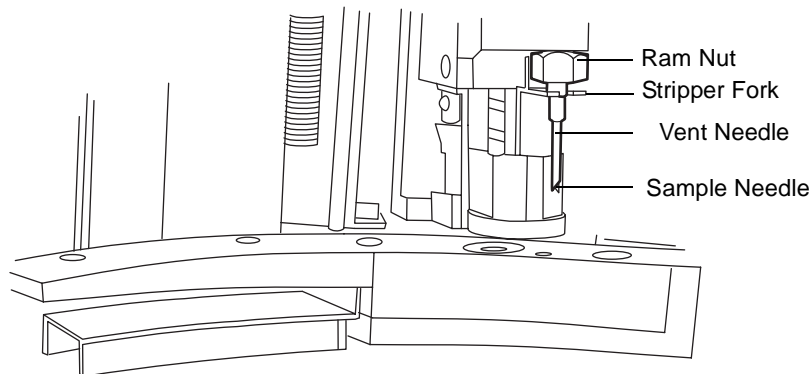

Figure 4-12 Viewing the Sample Needle
- e. Find the ram nut and sample needle inside the sample compartment, to the left of the tray (Figure 4-12). Use the flashlight to monitor the needle movement.
- h. Use the 1/2-inch wrench to remove the ram nut (see Figure 4-12).